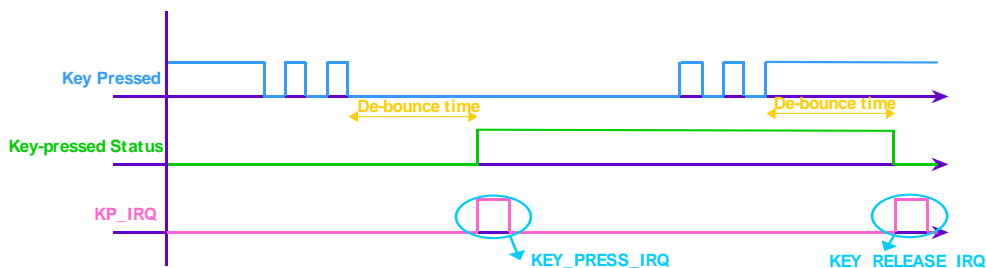
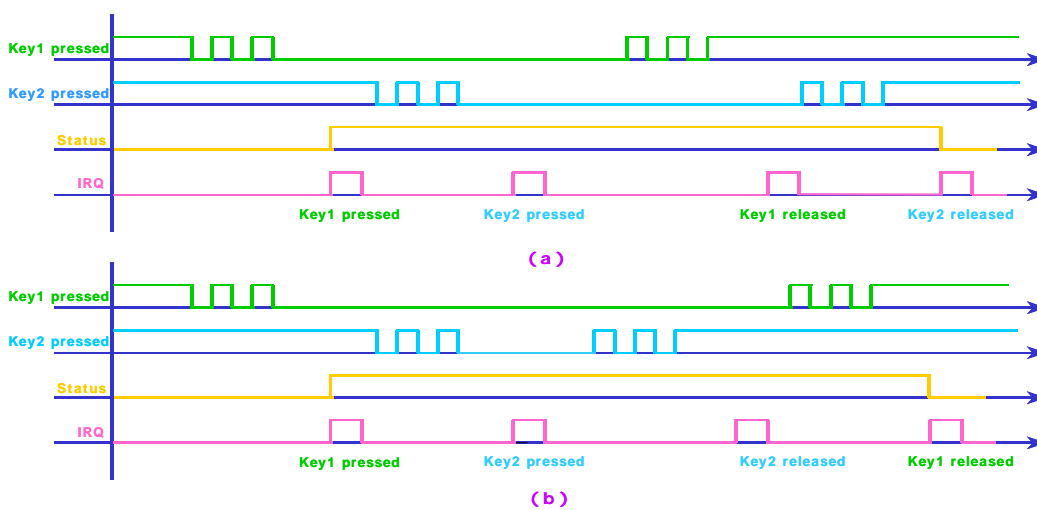

Fig. 4. One key pressed with de-bounce mechanism denoted
Fig. 5. (a) Two keys pressed, case 1 (b) Two keys pressed, case 2
This keypad can detect one or two key-pressed simultaneously with any combination. **Fig. 4** shows one key pressed condition. **Fig. 5 (a)** and **Fig. 5 (b)** illustrate two keys pressed cases. Since the key press detection depends on the HIGH or LOW level of the external keypad interface, if keys are pressed at the same time and there exists a key that is on the same column and the same row with the other keys, the pressed key cannot be correctly decoded. For example, if there are three key presses: key1 = (x1, y1), key2 = (x2, y2), and key3 = (x1, y2), then both key3 and key4 = (x2, y1) are detected, and therefore they cannot be distinguished correctly. Hence, the keypad can detect only one or two keys pressed simultaneously at any combination. More than two keys pressed simultaneously in a specific pattern retrieve the wrong information. This keypad can detect more than two key-presses simultaneously with some special combination. This limitation is any two or more simultaneous keys can't be the same row or column. As shown in **Fig.4**, two key-presses has exists in the keypad matrix and we do the 3rd key-press, KEY_A or KYE_B. In this case, KEY_A is valid and can be detected correctly because its position is not in the row or column of the two existing key-press. However keypad circuit can't detect KEY_B correctly. If three or more simultaneous key-press is necessary, the positions of these special keys need to be arranged carefully.